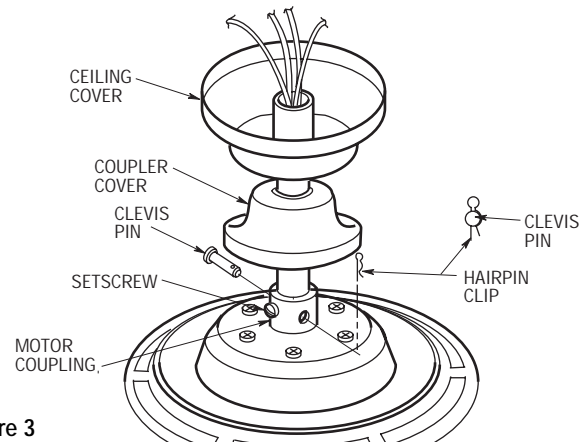

Figure 3
3. While pulling up on the downrod, securely tighten the setscrew in the motor coupling (Figure 3).
4. Make sure the grommet is properly installed in the coupling cover then slide the coupler cover on the downrod until it rests on the motor housing. Place the ceiling cover over the downrod. Be sure both the ceiling cover and the coupler cover are oriented correctly (Figure 3).